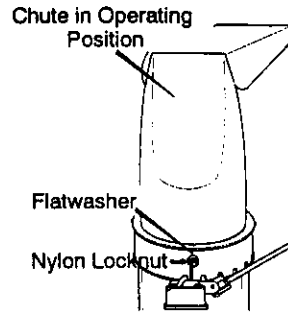

Figure 8
2. Tilt chute back into operating position. See Figure 8.